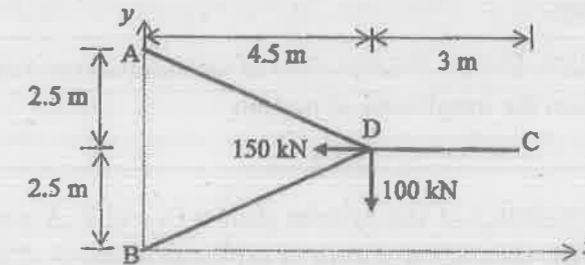

Fig. 4
14. Fig.4 shows the plan of a tripod. The feet A, B and C are in the same horizontal plane and the apex D is 3.75m above the plane. Horizontal loads are applied at D as shown. Using the method of tension coefficients, find the forces in all the members.